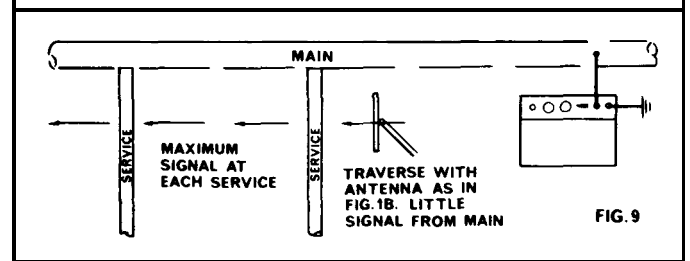

FIG. 9
6.5 BRANCH TAPS AND FOREIGN CONTACTS: Branch taps such as water or gas services off a main can be found by walking to one side of the main, holding the antenna as in Figure 1 B. Very little signal will be heard from the main, but each tap will produce a signal as it is reached. (Figure 9)